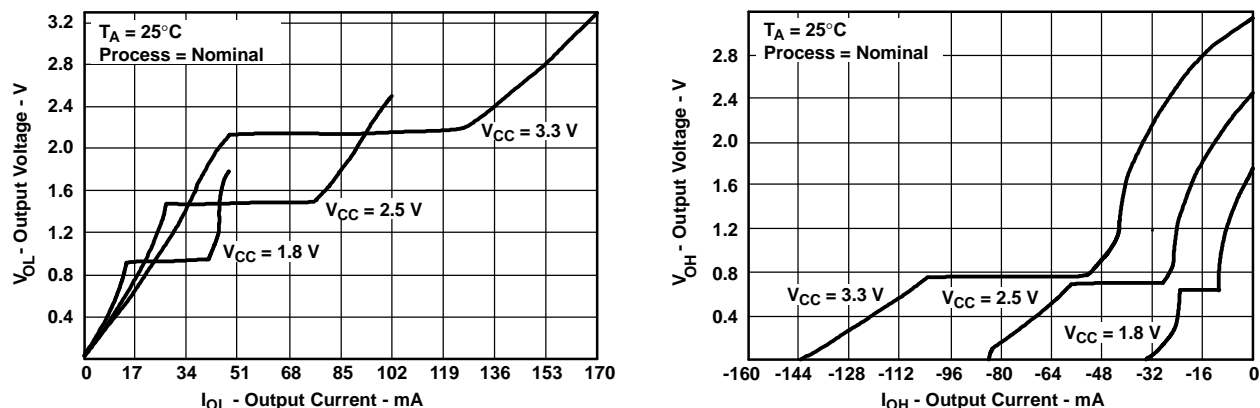

Figure 1. Output Voltage vs Output Current
A Dynamic Output Control (DOC™) circuit is implemented, which, during the transition, initially lowers the output impedance to effectively drive the load and, subsequently, raises the impedance to reduce noise. Figure 1 shows typical V_{OL} vs I_{OL} and V_{OH} vs I_{OH} curves to illustrate the output impedance and drive capability of the circuit. At the beginning of the signal transition, the DOC circuit provides a maximum dynamic drive that is equivalent to a high-drive standard-output device. For more information, refer to the TI application reports, *AVC Logic Family Technology and Applications*, literature number SCEA006, and *Dynamic Output Control (DOC™) Circuitry Technology and Applications*, literature number SCEA009.
(1) All unused inputs of the device must be held at V_{CC} or GND to ensure proper device operation. Refer to the TI application report, *Implications of Slow or Floating CMOS Inputs*, literature number SCBA004.
(2) Dynamic drive capability is equivalent to standard outputs with I_{OH} and I_{OL} of $\pm 24\text{ mA}$ at 2.5-V V_{CC} . See Figure 1 for V_{OL} vs I_{OL} and V_{OH} vs I_{OH} characteristics. Refer to the TI application reports, *AVC Logic Family Technology and Applications*, literature number SCEA006, and *Dynamic Output Control (DOC™) Circuitry Technology and Applications*, literature number SCEA009.